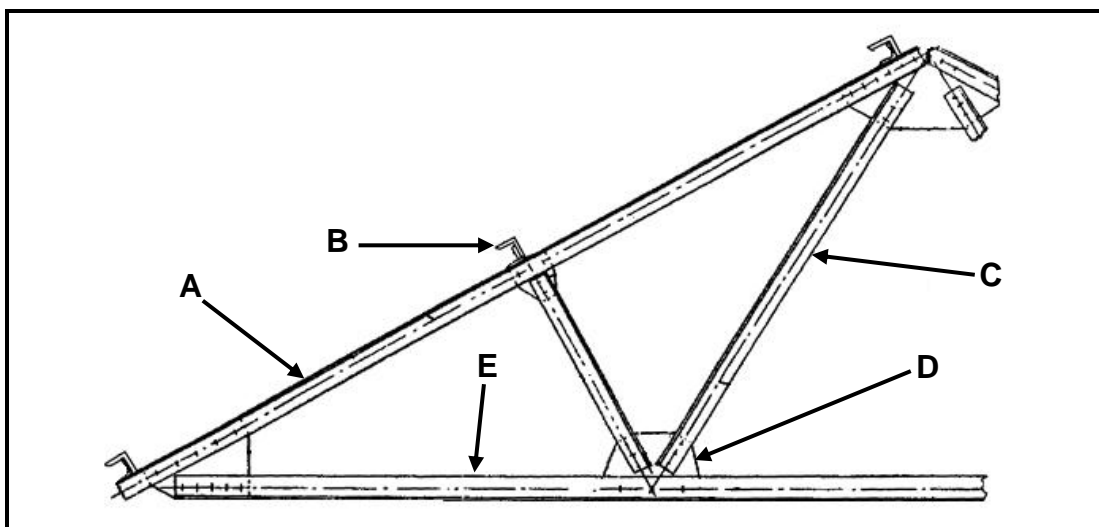

FIGURE 5.3
5.3 FIGURE 5.3 below shows a roof truss. Label parts A–E.